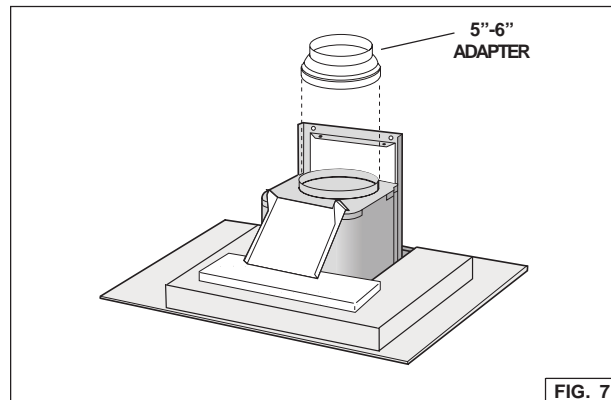

FIG. 7
1. Discard discharge collar/damper supplied with the hood. Install the 5" to 6" adapter supplied with the Non-Ducted Recirculation Kit (Fig. 7).